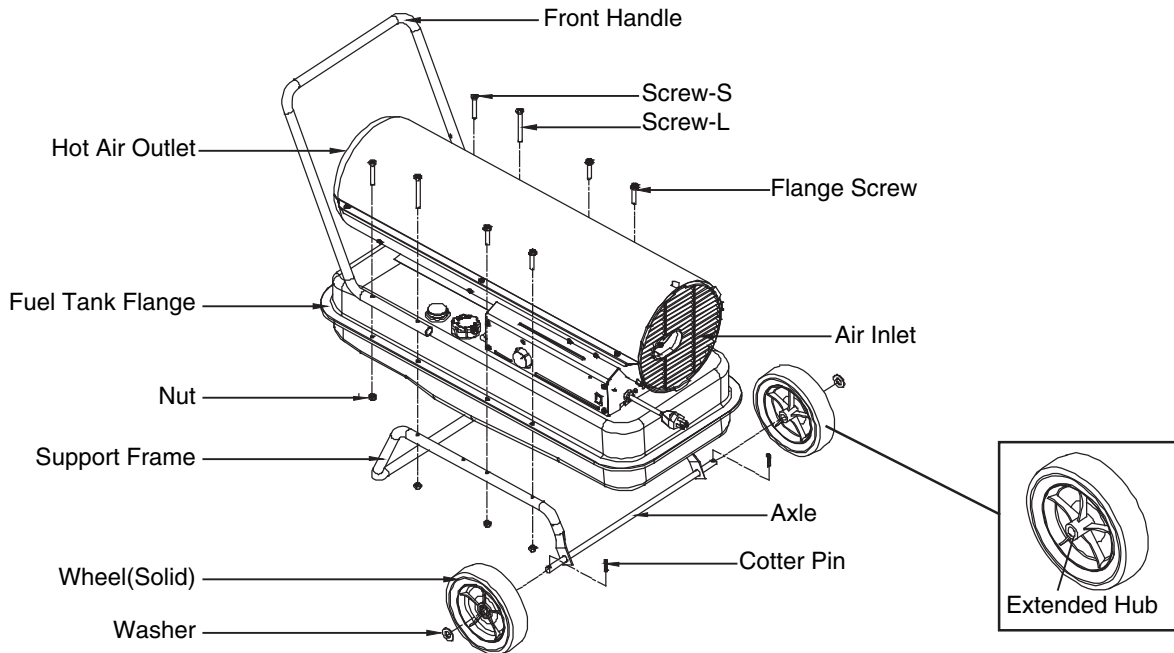

Figure 7. Assembling Handle and Wheel
NOTE : When installing wheels, point extended hub of wheels toward wheel support frame. (See Figure 7)
4. Position the handle on top of fuel tank flange. Insert screws through handles, fuel tank flange, and wheel support frames as shown in Figure 7 and attach nut finger tight after each screw is inserted.